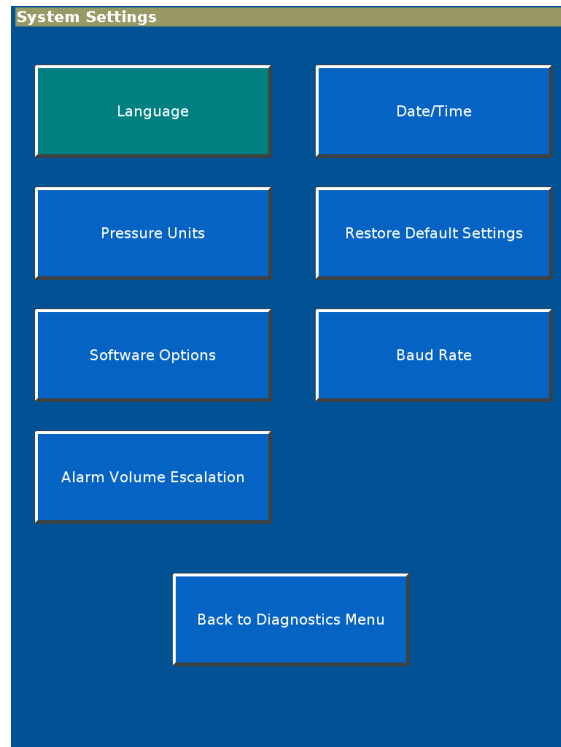

*Figure E-1: Diagnostics Menu*
3. Within less than 5 seconds, release and press the Accept button again. The Diagnostics Menu (Figure E-1) is displayed.